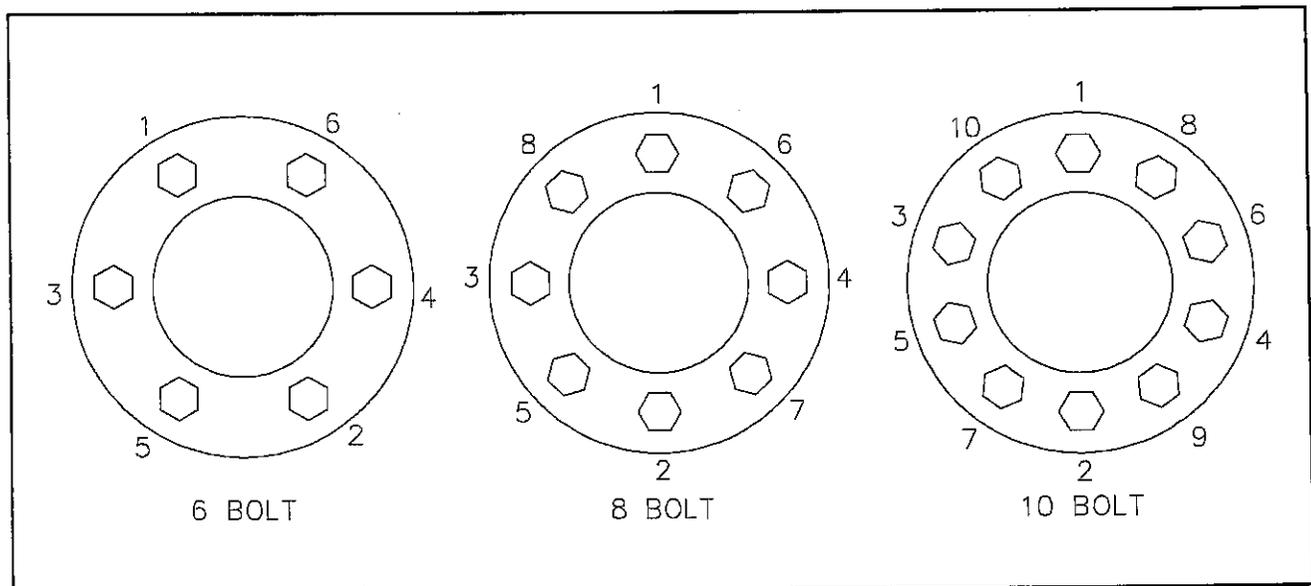

Figure 4-13 Stud Tightening Sequence
c. For ball seat mounted wheels only, install the inner capnuts on the studs and tighten to fifty foot-pounds using the sequence illustrated in Figure 4-13. Make certain that the left-handed threads are installed on the driver side of the vehicle and the right-handed threads are installed on the curbside of the vehicle.
d. Tighten the inner capnuts to full torque of 450 to 500 foot-pounds using the same sequence in Figure 4-13.
g. Install the outer capnuts (ball seat) or flange nut (pilot mount) and tighten to 50 foot-pounds using the sequence in Figure 4-13. Then tighten to full torque of 450 to 500 foot-pounds for ball seat and 500 to 550 foot-pounds for pilot mount, using the same sequence.